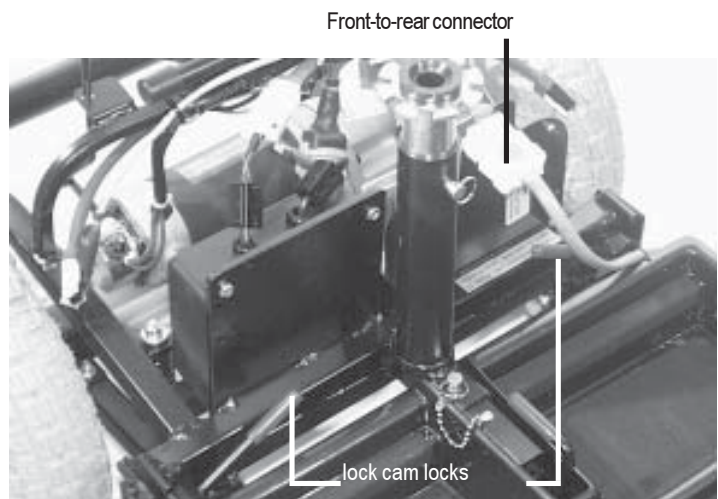

Figure 16. Lock cam locks
6. Place the cam locks in the locked position. See figure 16.